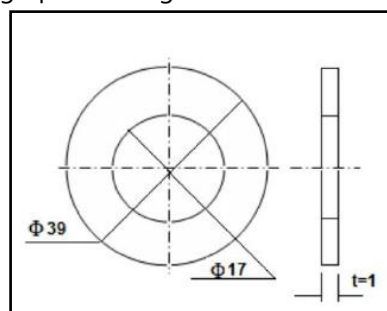

Figure 10.1. Blanking and Piercing operation 1
- Note down the reading of the pressure gauge which directly gives the force required to perform the piercing operation figure 10.1